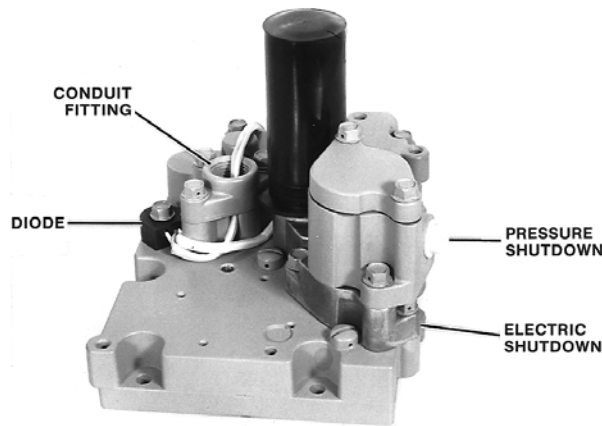

Figure 2-4. Electric Shutdown Device with Pressure Shutdown
2. Refer to Figures 2-4 (Electric Shutdown Device with Pressure Shutdown), 4-1 (Parts for ETS Electric Shutdown Device), and 4-2 (Parts for ETR Electric Shutdown Device). Place gasket (5) on the governor cover. Place the Electric Shutdown Device on the cover and secure it with three screws.
3. Attach the diode (16) to the cover as shown in Figure 2-4. Thread the electrical leads from the diode up through the conduit fitting on the cover.